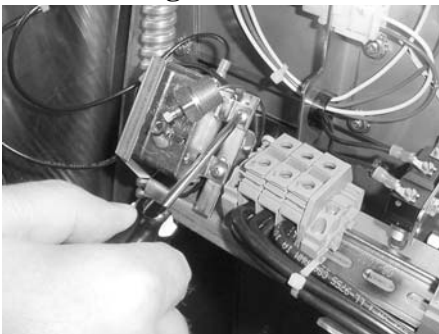

Figure 2-65
3. Remove the two screws securing the high limit to the bracket and pull high limit from bracket. Figure 2-65.